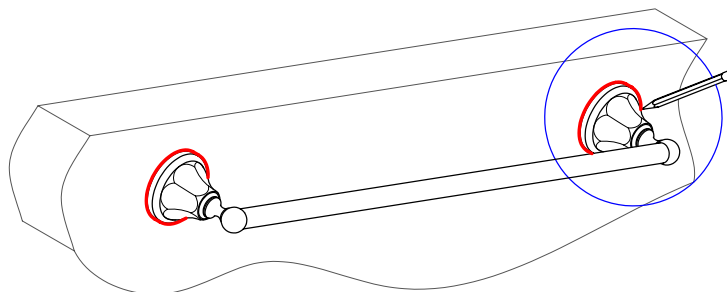

Fig. 1
- Step 1. Locate position on the wall and mark outline of cover plate on the wall. (Fig.1)